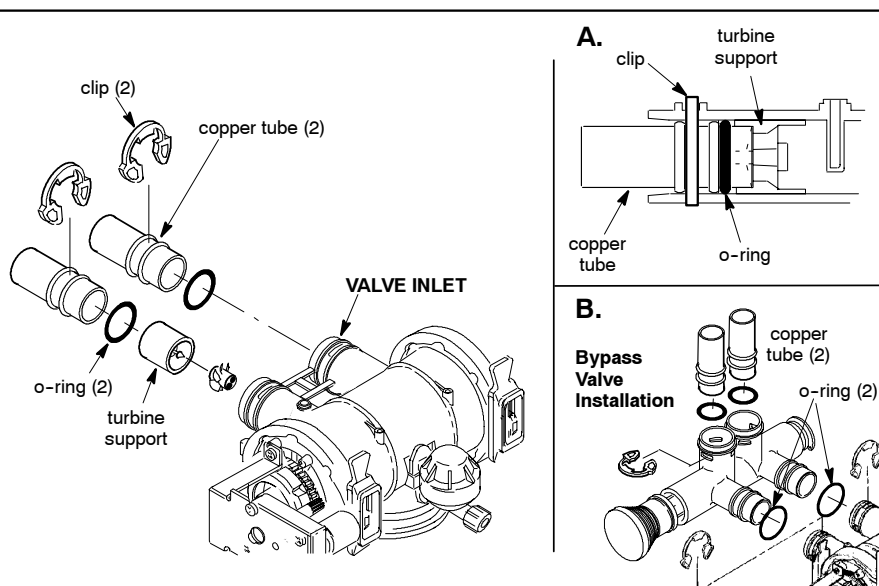

FIG. 3
b. Slide a lubricated o-ring seal onto each of the copper tubes. Carefully insert the copper tubes into the bypass valve (See Figure 3B), or into the conditioner/refiner valve (Figures 3 & 3A). Then install the "C" clips.